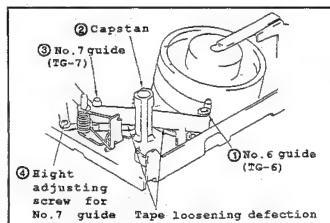

Fig.II-40
- (1) Playback the tape having 10 μ m in thickness (P6-120 etc.). Then, set it to REV mode.
- (2) Confirm that the tape is not creased at the lower flange ② of No.2 guide ①. If creased, turn the upper flange ③ of No.2 guide ① clockwise until the crease removed.
- (3) Playback the Alignment tape for tracking adjustment.
- (4) In the same procedures in "4-2" and "4-3", perform the tracking and tracking fine adjustments.
- (5) At track shift mode, playback the tape after CUE/REV mode. Confirm that the RF envelope rises horizontally within 2 sec as shown in Fig.II-40.
- (6) If not, turn the upper flange ③ of No.2 guide ① counter clockwise by 90°. Then, perform the step (5) again.
4-5 No.7 Guide Adjustment (Fig.II-40)